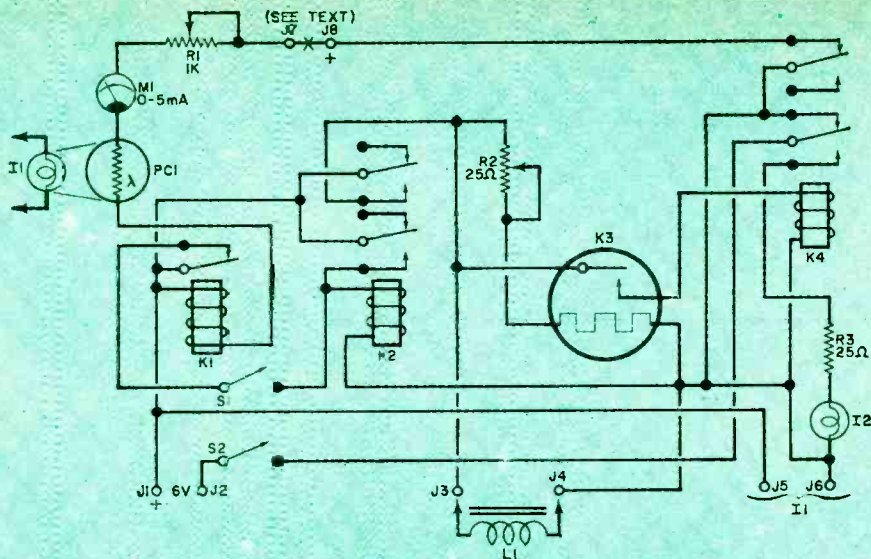

Fig. 1. Once system is tripped, relay operation is in numerical sequence. As K2 closes, it pulses shutter solenoid; K2 provides the power-disconnect feature.
Fig. 1. The probe is a simple two-transistor lamp driver arrangement. With no signal applied, the lamp is lit. When a positive voltage is applied to the tip, the lamp goes out.
**Probe.** The electronic part of the probe (Fig. 1) is assembled to fit inside a plastic tube whose inside diameter is just large enough to hold the pilot lamp, I1. The author used the empty plastic case of a large cheap felt-tip pen.
**How It Works.** Power is applied to the Electronic Shutter Control circuit through *J1* and *J2* in Fig. 1. With both *S1* and *S2* closed, the beam from control light *I1* is directed at *PC1*, causing the resistance of the photocell to reduce enough to allow *K1* to be energized. When *K1* picks up, its normally closed contacts open, depriving *K2* and subsequent circuits of power.